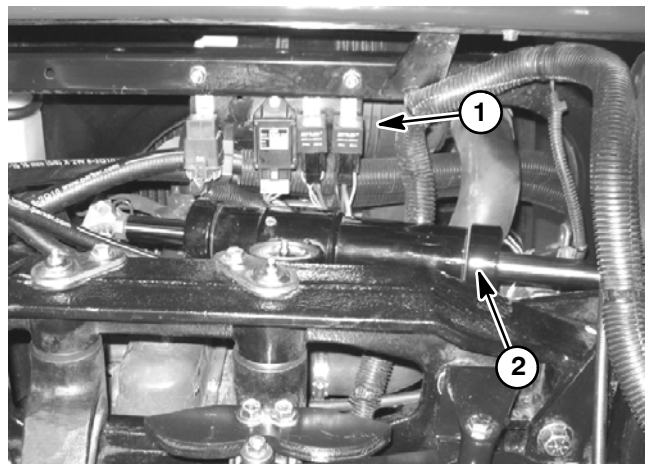

Figure 60
The Groundsmaster 360 electrical system includes identical relays for current control. The main power, glow, start (4WD machines) and cab power (4WD machines with operator cab) relays are attached to the air cleaner bracket near the rear steering cylinder (Fig. 60). The wire harness is attached to these relays with four (4) wire connectors. Relays can be identified by a tag on the wire harness.